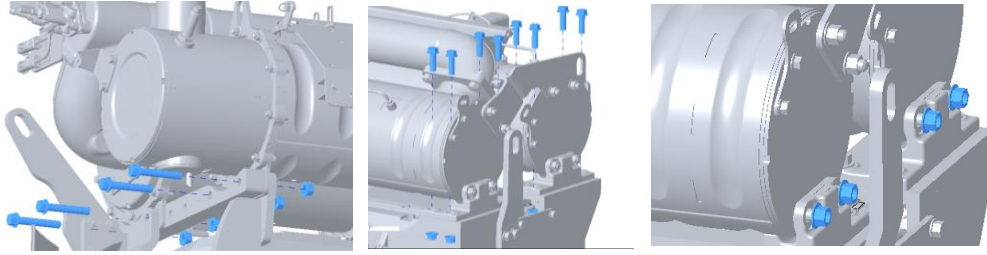

Figure 14
13. After alignment, loosely assemble M12X70 bolts (26) and M12 nuts (28) onto the ATD mount brackets around fan side and use M12X40 bolts (25) and M12 nuts (28) on the flywheel side as shown in the figure 14.